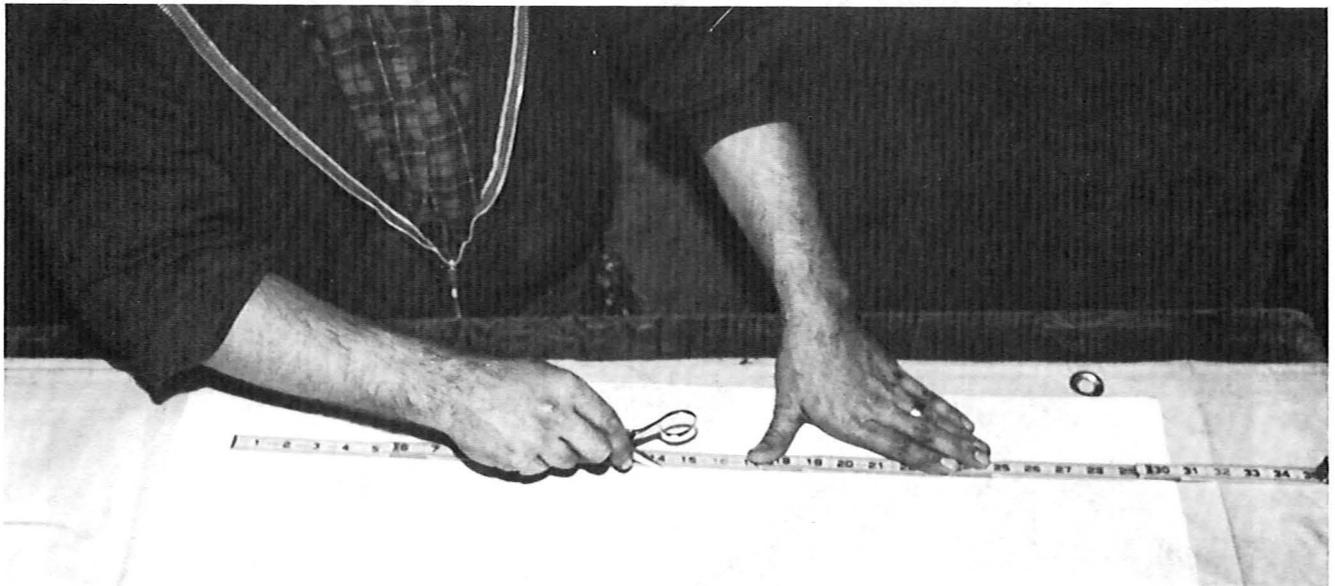

Fig. 5
- 3.04 Prepare the CR tape as follows: Carefully score the white separator material of the CR tape cover 3-1/2 inches from all four edges with splicing snips as shown in Fig. 5.